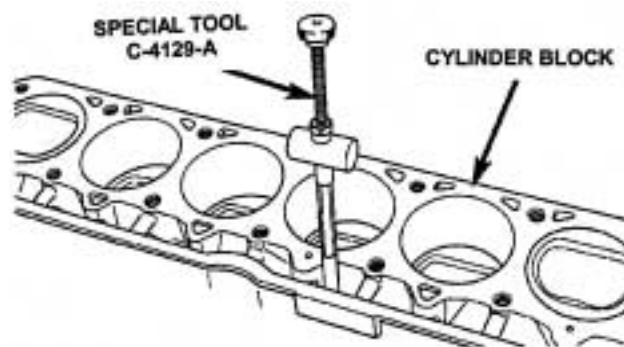

Figure 12
28. Remove and discard all of the hydraulic valve tappets from the engine cylinder block using Special Tool C-4129-A or equivalent (Figure 12).